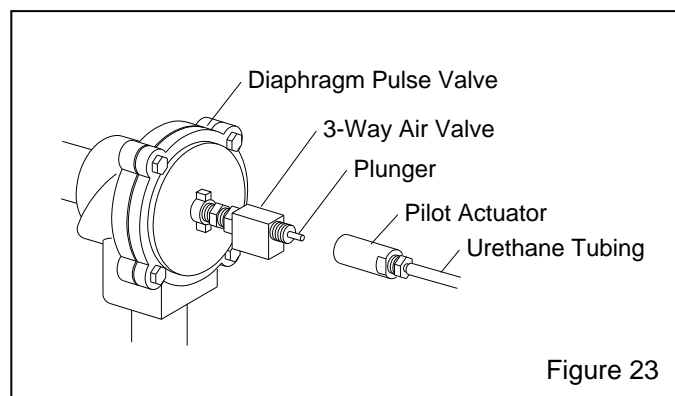

Figure 23
**8.15.5** Check the diaphragm pulse valve and actuator assembly. Refer to Figure 23.